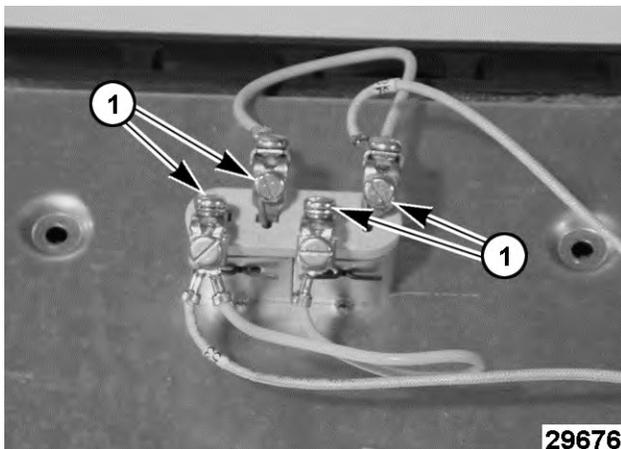

Fig. 19
4. Remove the inside terminal screws (1, Fig. 19) from electrical connections.